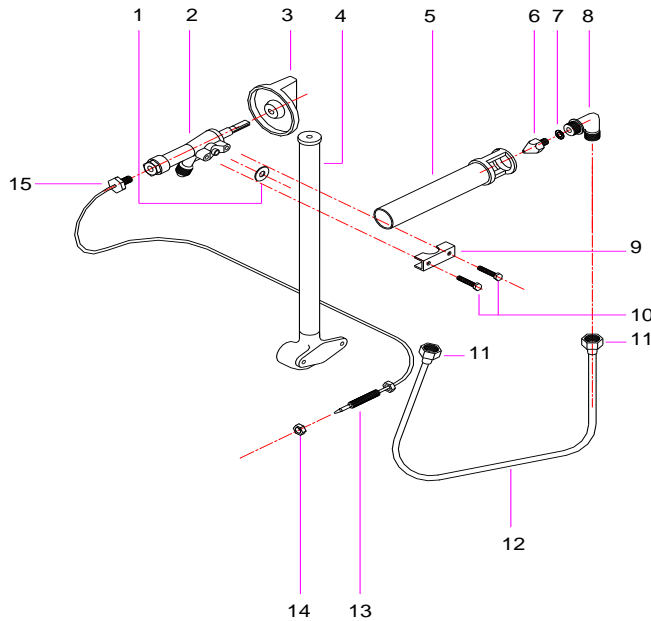

Fig. 7
- Remove all the controls (3) (See fig. 7) of the valves by pulling them outwards.
- Remove all the nuts (11) and remove the tube (12)
- Pull the elbow piece outwards (8) and the set formed by parts (5), (6) and (7) will come out of the burner.
- Unscrew the elbow piece (8) from said set and replace the injector (6) with the one suited for the type of gas to be used. The diameter of the injector is indicated on its casing. Do not forget to replace the washer of the joint (7) with a new one.
- Loosen the tube (12) (See Fig. 7) by loosening the nuts (11) of the valve you wish to change. Then dismount the thermocouple of the valve by loosening the nut (15).
- Totally loosen the screws (10) which, together with the bracket (9), fasten the valve to the battery.
- Proceed in reverse order to what is explained above to assemble the new valve. Do not forget to replace the washer of the joint (1) with a new one.
- Loosen the nuts (15) and (9) (See Fig. 7) of the thermocouple you wish to change and remove it.